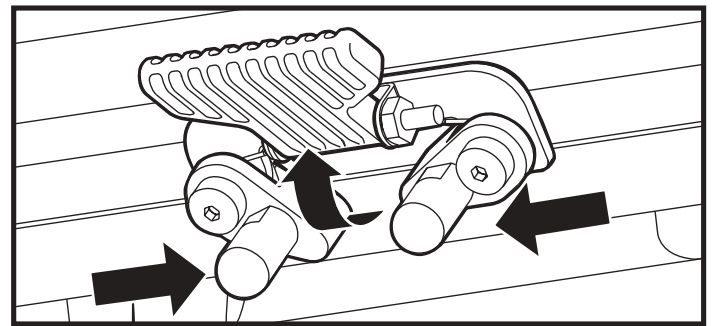

Figure 13. Seat Height Adjustment - Seat Latch Safety
4. Flip up the seat latch safety. See figure 13.